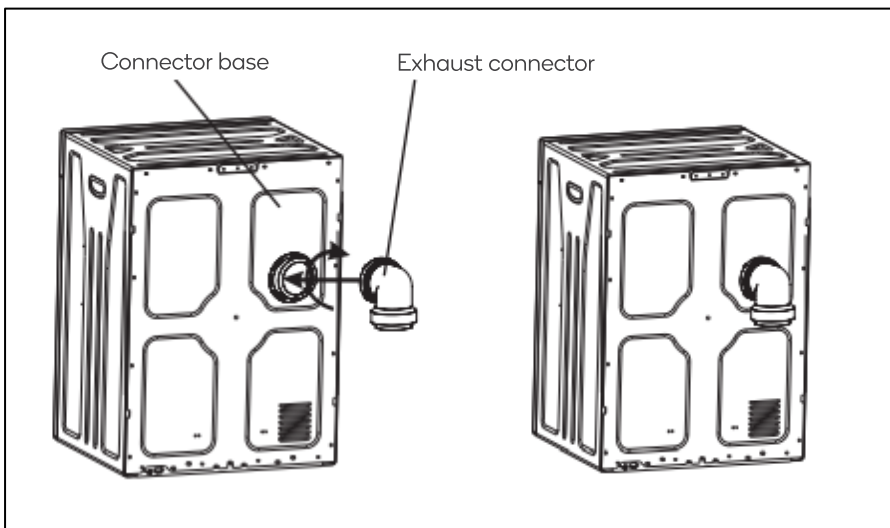

Figure 3
5. Attach the exhaust connector to the connector base by rotating it in a clockwise direction (Figure 3).